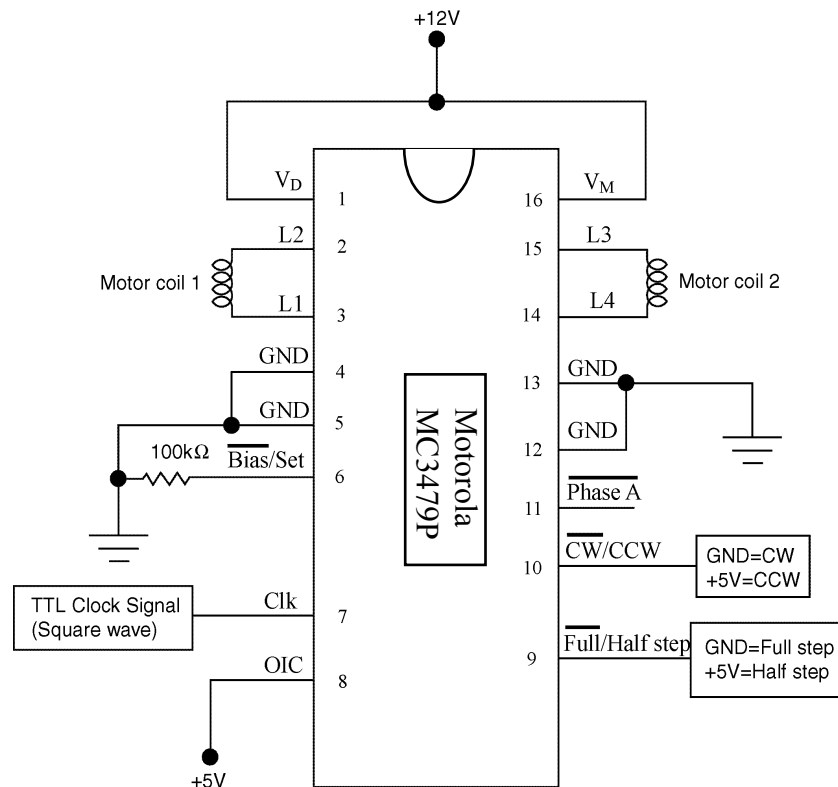

Figure 2: Pin out schematic for the driver chip.
1. Build the following stepper motor control circuit shown in Figure 2. The circuit is built around the Motorola MC3479P stepper motor driver chip. The chip takes an input clock signal (i.e. square wave) and produces control signals that excite individual coils within a stepper motor, hence causing the motor to rotate. Rotation direction is controlled through PIN 10 on the chip and half or full stepping is controlled through PIN 9. The individual stepper motor coils are connected to PIN 2, 3 and PIN 14, 15, respectively. You must find a way to determine which output plug on the motor belongs to the appropriate coil pins on the chip (hint: measure the resistance). The “Lab Handouts” section on the class web page contains the Motorola technical document for more detailed information.